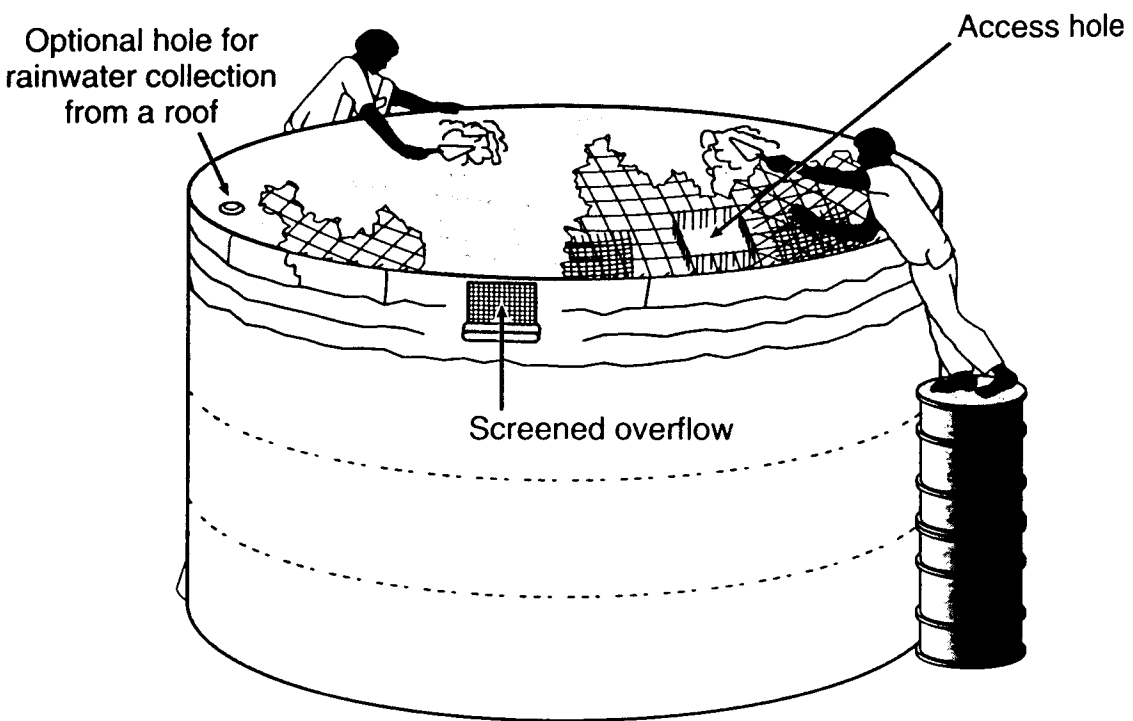

Figure 11.13 Plastering the tank roof
- Position and plaster the roof: Place the roof reinforcement on the tank wall and bind it to the vertical wall wires. Cut an access hole (450mm × 450mm) in the roof wires. Support the roof on poles. Plaster the roof with cement mortar (1:3 mix) and cover. (See Figure 11.13).